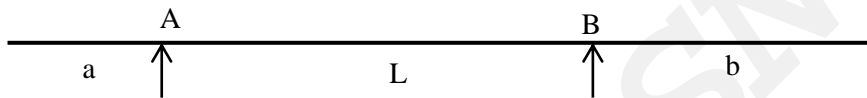

Fig.6
- b) Draw the influence lines for shear force and bending moment at a point C of the beam shown in figure 6
- b) Draw Influence line diagrams of the support reactions at A and B for the beam shown in Fig.6. 5